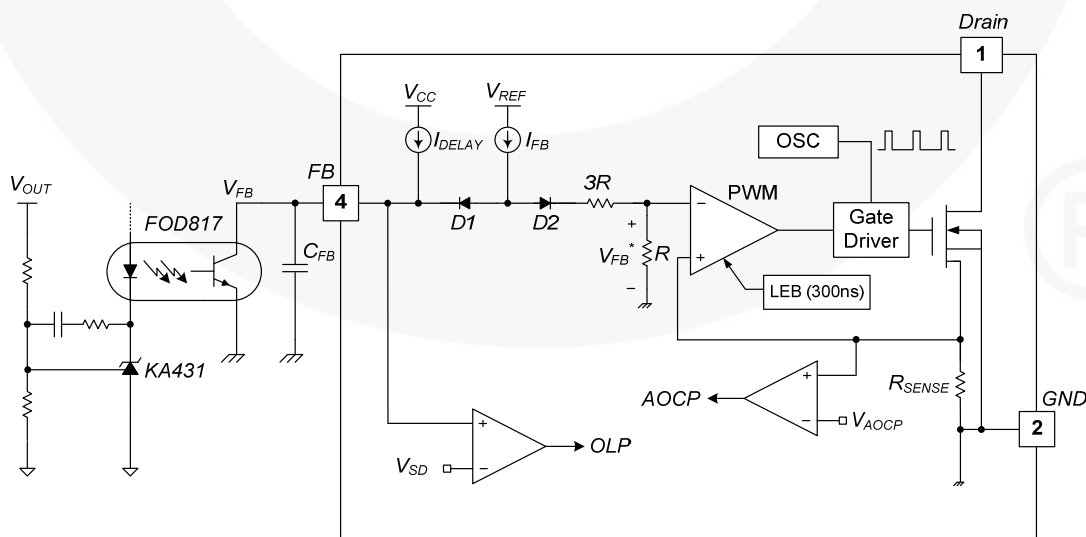

Figure 18. Pulse Width Modulation Circuit
3. Feedback Control: This device employs Current-Mode control, as shown in Figure 18. An opto-coupler (such as the FOD817) and shunt regulator (such as the KA431) are typically used to implement the feedback network. Comparing the feedback voltage with the voltage across the R_{SENSE} resistor makes it possible to control the switching duty cycle. When the reference pin voltage of the shunt regulator exceeds the internal reference voltage of 2.5V, the opto-coupler LED current increases, pulling down the feedback voltage and reducing drain current. This typically occurs when the input voltage is increased or the output load is decreased.
3.1 Pulse-by-Pulse Current Limit: Because Current-Mode control is employed, the peak current through the SenseFET is limited by the inverting input of PWM comparator (V_{FB}^*), as shown in Figure 18. Assuming that the $90\mu A$ current source flows only through the internal resistor ($3R + R = 27k\Omega$), the cathode voltage of diode D2 is about 2.4V. Since D1 is blocked when the feedback voltage (V_{FB}) exceeds 2.4V, the maximum voltage of the cathode of D2 is clamped at this voltage. Therefore, the peak value of the current through the SenseFET is limited.